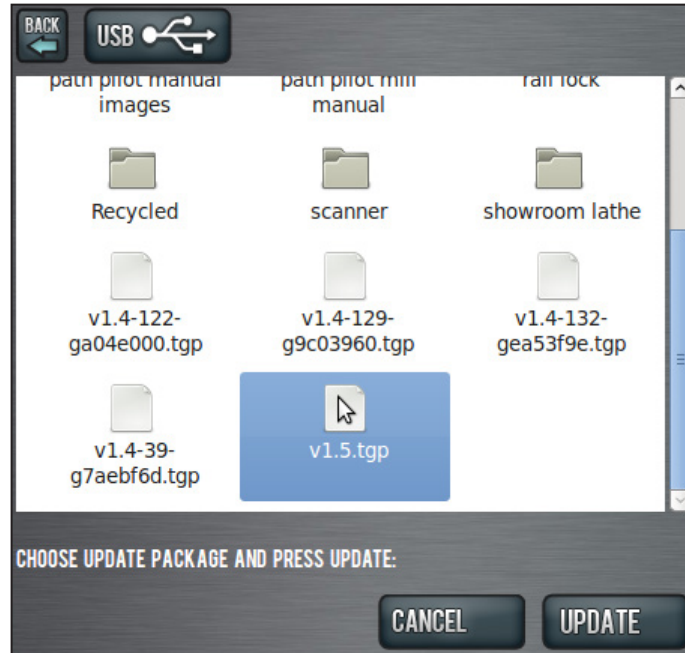

Figure 2
6. Select the PathPilot update file on the USB drive and click *Update* (see **Figure 2**).